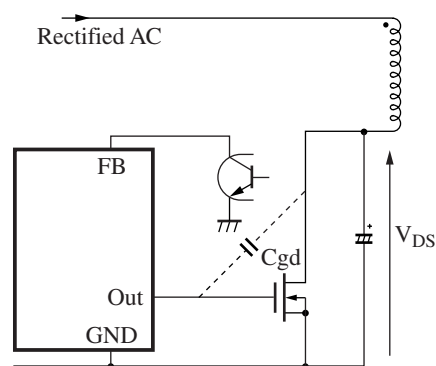

Figure 9
However, the amplitude of the chattering is larger for higher input voltages and for larger leakage inductance in the transformer used. Also, the influence of this phenomenon becomes more noticeable for the larger C_{gd} of the power MOSFET used, and the V_{ex} peak value also increases. If the parasitic device conduction voltage is exceeded, then, in this IC, the parts of the circuit around the feedback circuit (FB) (in particular, the FB discharge circuit) are influenced. This can cause momentary drops in the FB pin voltage (the control voltage), and as a result increase the FB current I_{FB} and thus does not allow the drive pulse on-period T_{ON} to be increased. It may also prevent stabilization of the circuit. These are symptoms of the case described here. (Refer to figures 9 and 10.)